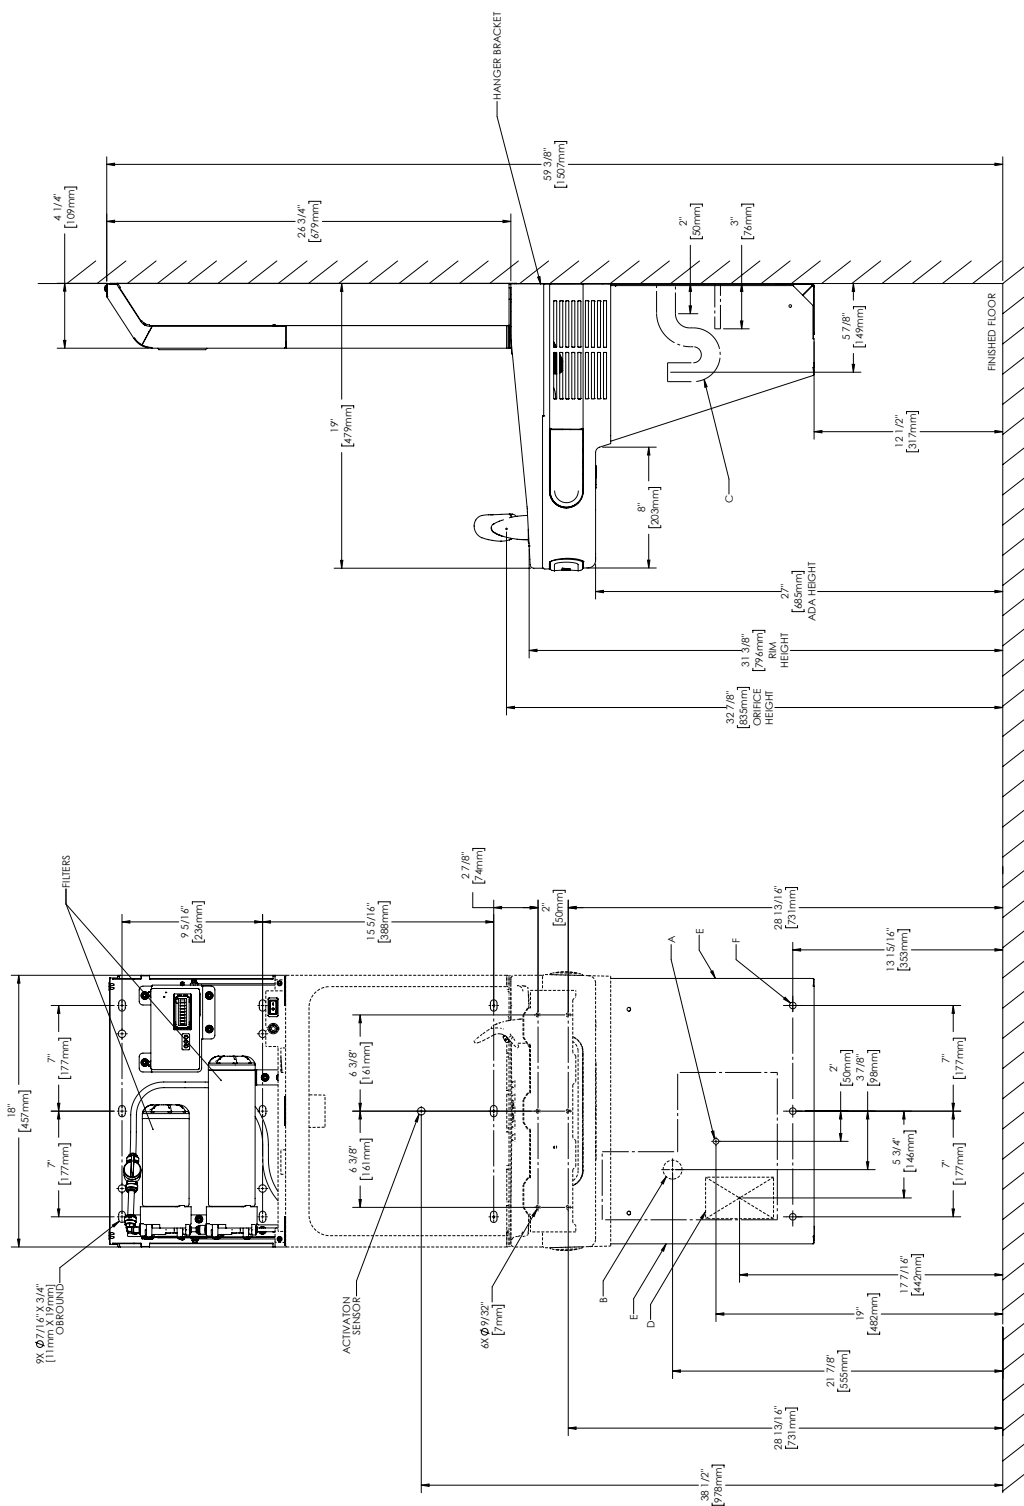

Fig. 1
1. Remove hanger bracket fastened to back of cooler by removing one (1) screw.
2. Mount the hanger bracket as shown in Figure 1 (Pg. 7).
1. Hang the cooler on the hanger bracket. Be certain hanger bracket is engaged properly in the slots on the cooler back as shown in Figure 1 (Pg. 7).